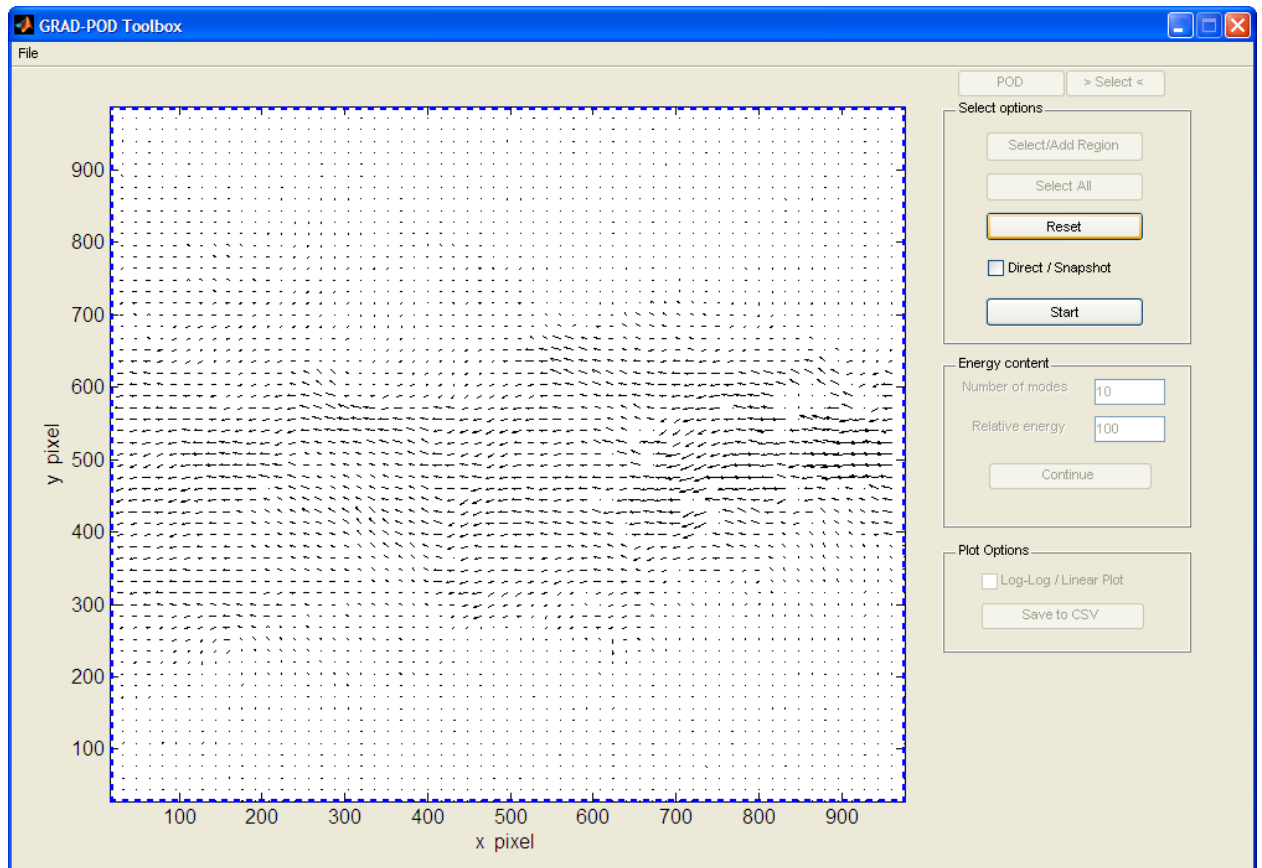

Figure 7: Selecting the entire map.
- Select All - Pressing 'Select All' will select the entire map (see Figure 7)